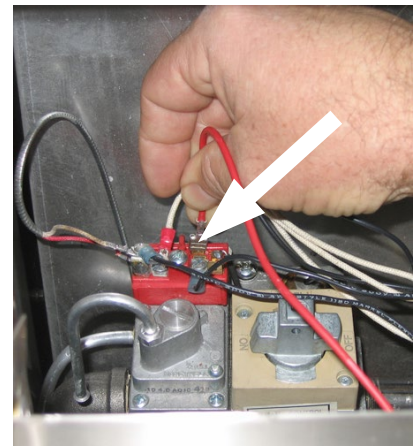

Figure 2: Attach the red wire to the gas valve.
2. On the same terminal, attach the red wire coming from the provided inline switch (Figure 2). **NOTE: Gas valves differ in appearance. See wiring diagram on page 2 & 3**